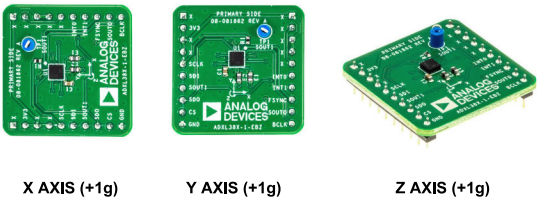

Figure 16. Sample Direction
3. Position the EVAL-ADIS-MCBZ board in different directions so that at least a positive and negative reading on each axis is recorded. For a 3-axial accelerometer, it is recommended, at least, to position the board so that each axis reads approximately +1g and -1g. Figure 16 shows three sample directions for the +1g acceleration along three different axes. The more positions are recorded, the more accurate the calibration is. Make sure to hold each position for at least three seconds for the calibration algorithm to work properly.